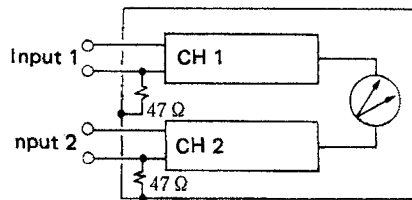
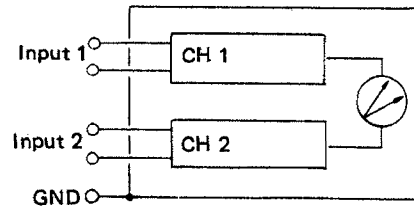

Fig. 2
Fig. 3
- ③ Pilot lamp: Indicates when the AC power is on.
- ④⑧ "INPUT"
These are the ground terminals for voltage measurement. When the CIRCUIT GROUND switch ⑰ on the rear panel is set to , the ground terminal of each channel is connected to the frame through a 47Ω resistor as shown in Fig. 2. When the switch is set to FLOAT, the ground terminal of each channel is completely floating as shown in Fig. 3.
- ⑩ RANGE CH 2 switch: with 12 positions for selecting the full scale range under following conditions –
- ⑪ PWR switch: For turning on the AC power.
- ⑬⑭ “OUTPUT” (Red Terminal)
- This is the output terminal when the instrument is used as an amplifier. When the meter indicates full scale at each position of the range switches ⑥ and ⑩, 1 V_{rms} can be obtained. Output to “INPUT 1” is “OUTPUT 1”, and output to INPUT 2” is “OUTPUT 2.”
- ⑭⑮ “OUTPUT” (Black Terminal)
- ⑰ CIRCUIT GROUND switch
- When this switch is set to $\sim \text{V} \text{---} \perp$, the ground terminal of each channel is connected to the frame through a 47Ω resistor as shown in Fig. 2. When the switch is set to FLOAT, the ground terminal of each channel is floating as shown in Fig. 3.
- ⑱ GND (metal) terminal